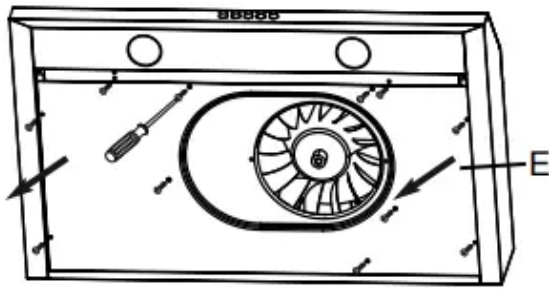

Fig.13
- The damper and the adapter are located inside the range hood. To access these parts, remove the bottom panel (E) if you have not previously done so (see Fig. 13).
- Choose to install the damper (C) either in the top position (3) for top venting or in the back position (5) for back venting. Adapter (D) installs to position 3 & 4 for top venting only .
- Attach damper (C) or adapter (D) over chosen knockout opening . Make sure the damper pivot is oriented on top such that the damper stays closed when not in use .
- Secure the damper (C) or adapter (D) to the range hood (A) with the short tapping screws (BB).
- Seal the damper (C) or adapter (D) to the range hood (A) on all four sides with duct tape